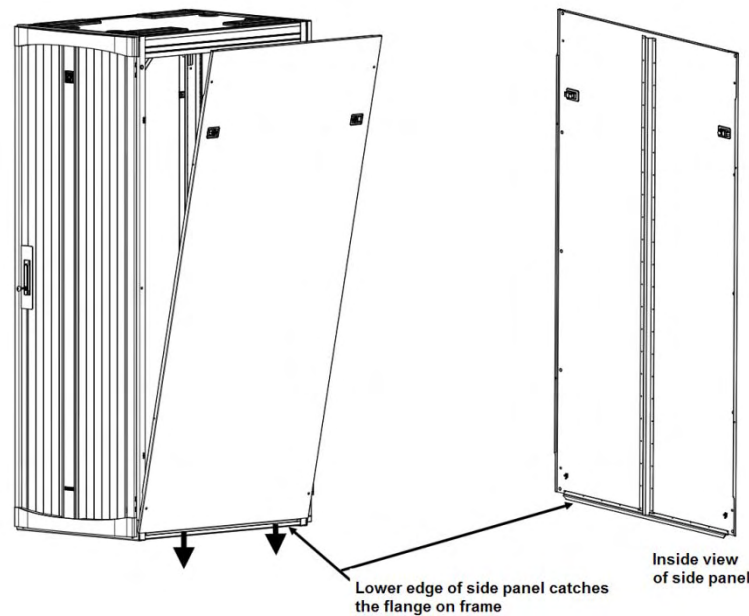

Fig. 2.6.2 Installing the side panel
1. To install the side panel, tilt the top of the panel 10 degrees away from the cabinet and guide the flange at the bottom of the panel over the edge of the frame. Rotate the panel toward the cabinet until flush with the outer frame and latches click into place (see Fig. 2.6.2).